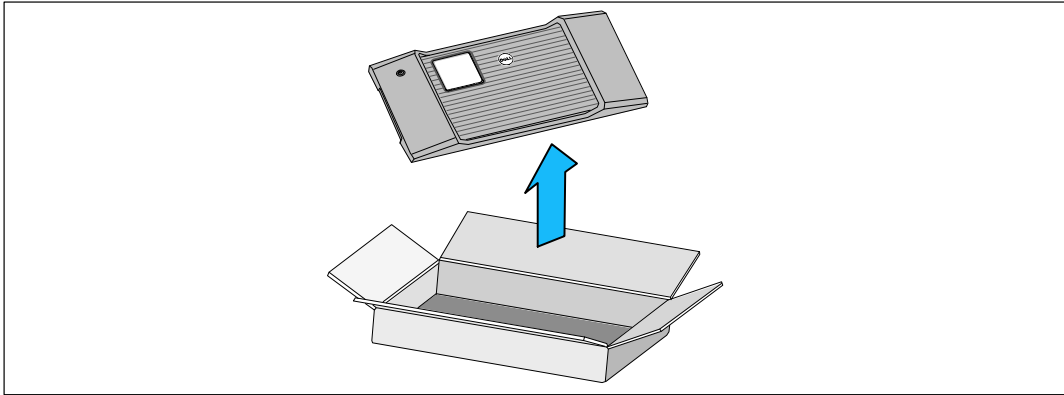

Figure 16. Unpacking the Front Cover
- 13 Remove the front cover from the accessory box (see Figure 16).